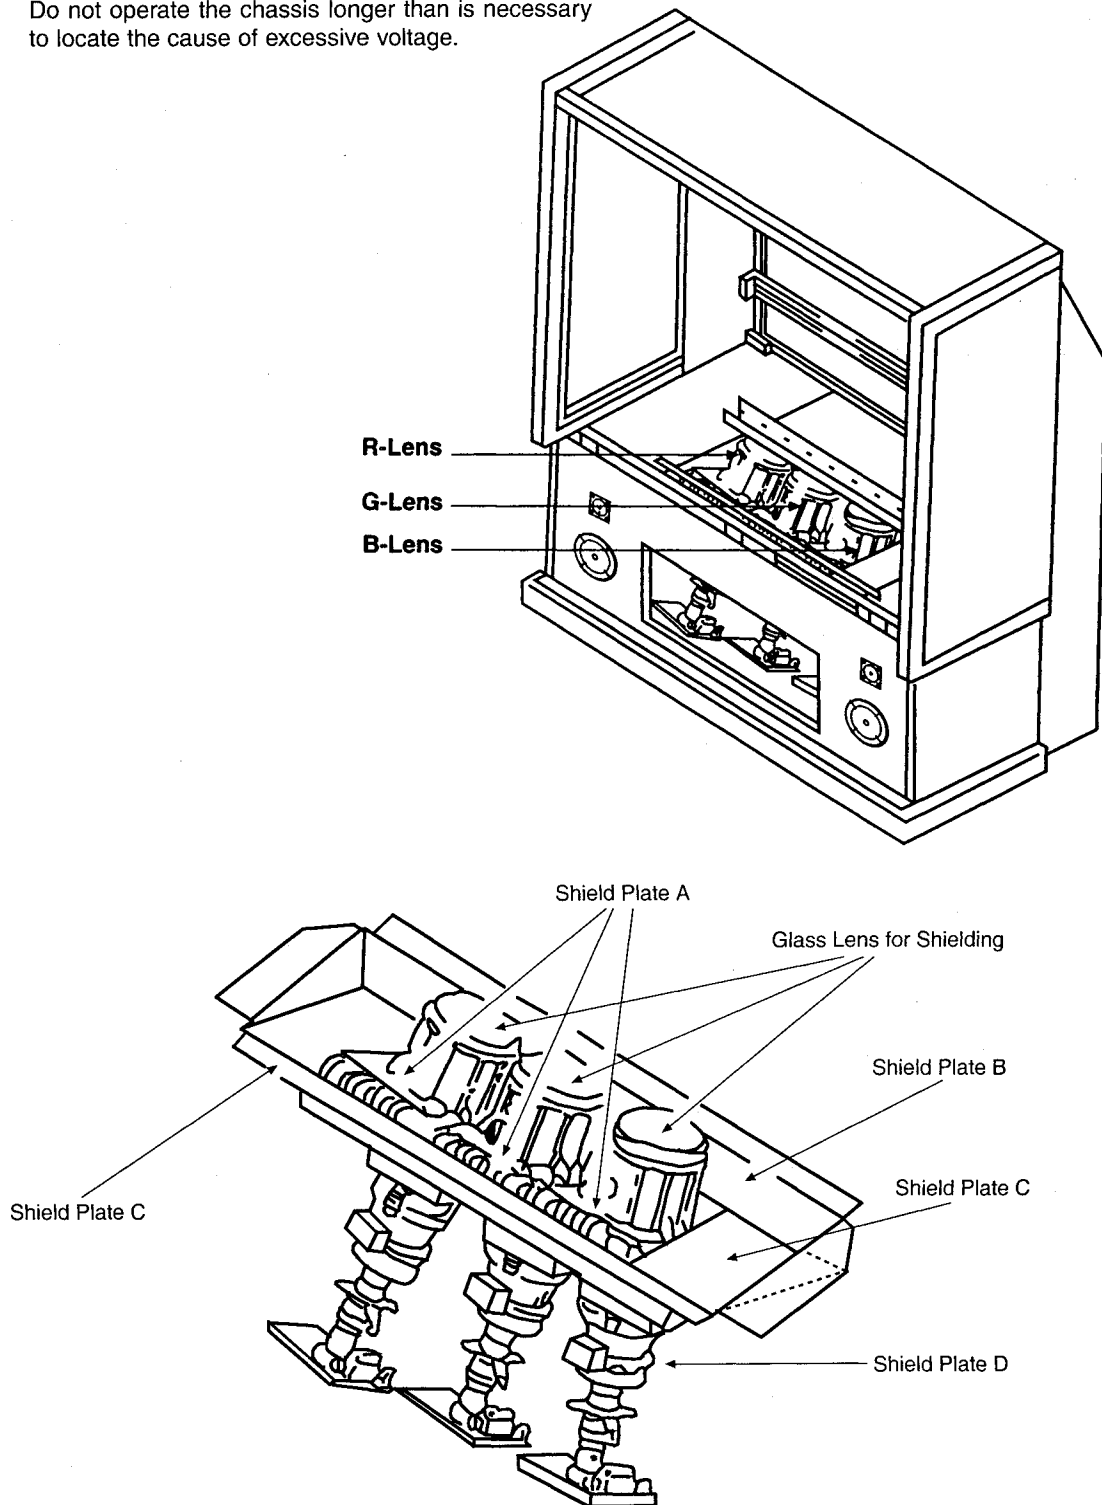

Fig. 1. Detailing X-radiation Shield
1. This receiver is provided with X-ray shield plates for protection against X-radiation. Do not remove X-ray shield plates A, B, C, or D shown in Fig. 1 unnecessarily, when troubleshooting and/or making test measurements.